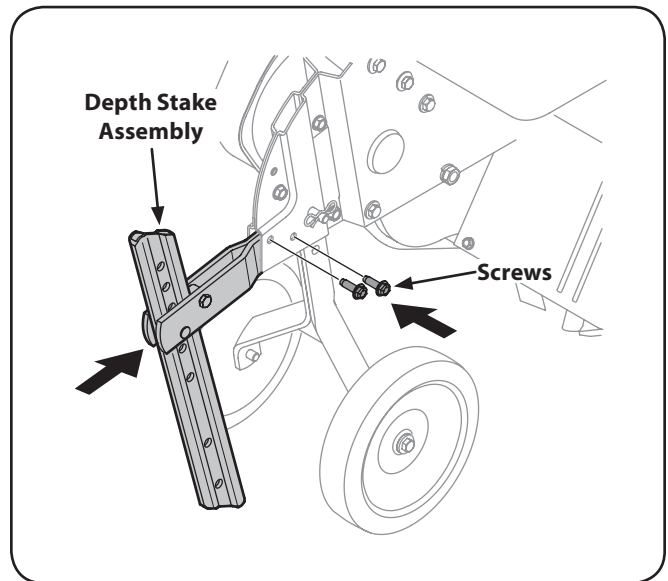

Figure 1-6
2. Insert the depth stake assembly into the frame and reinstall the two screws removed earlier. Tighten the hex bolts securely. See Figure 1-6.